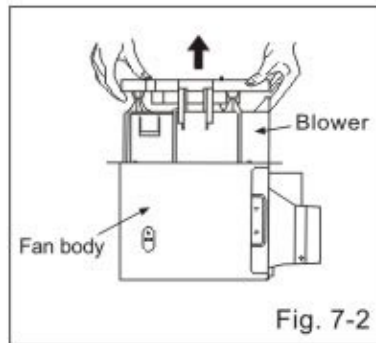

Fig. 7-2
2. Remove blower section. (Fig.7-2)